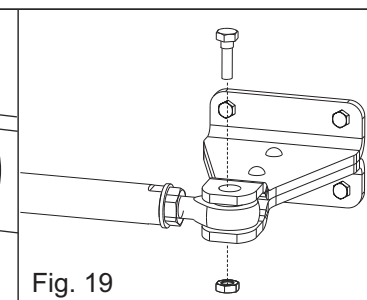

Fig. 19
- Secure the shaft to the front bracket by tightening the screw (Fig. 19)